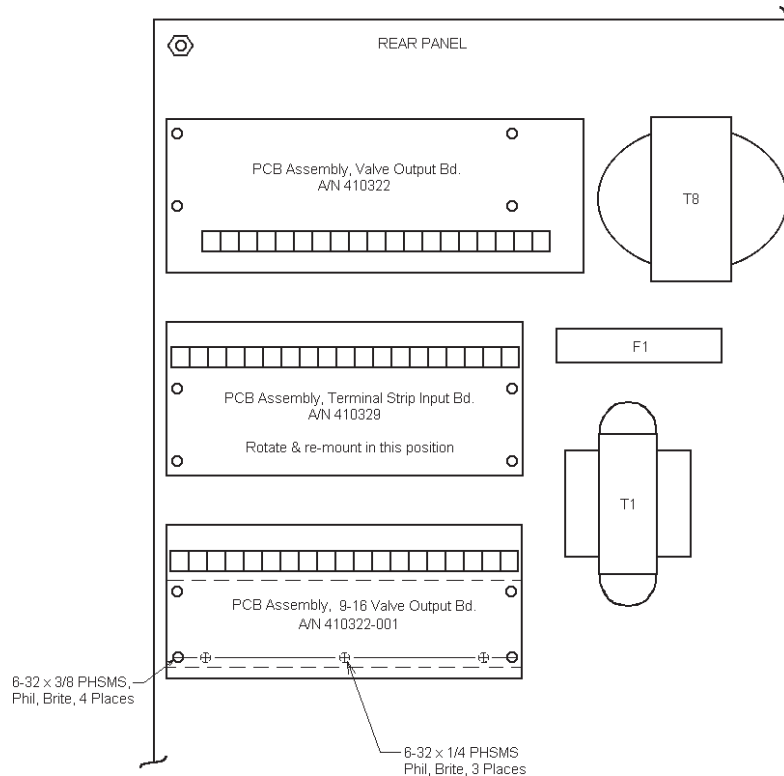

Figure 5-4. 9-16 Valve Extension Mounting detail for “L”, “H”, “G”, or “U” Cabinet
6. Drill and tap rear panel per Figure 5-4, be sure to vacuum or otherwise remove ALL metal chips before adding Mounting Plate (A/N 510236) to rear panel using 3 ea. 6-32 x 1/4 PHSMS, Phil Brite. Add extra spacer (P/N 555031) to each existing spacer (4 places) to offset PCB 1" from panel.
7. Mount 9-16 Valve Extension PCB (A/N 410322-001) to bracket (P/N 510236) using four (4) 6-32 x 3/8 PHSMS, Phil., Brite. See Figure 5-4.